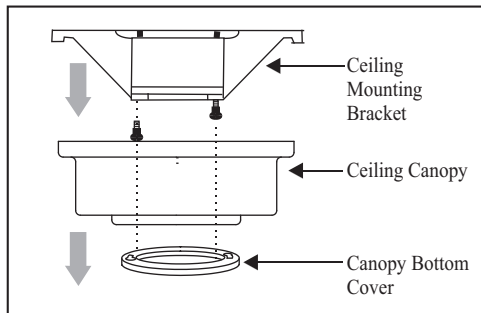

Figure 5
1. Remove the decorative canopy bottom cover from the canopy by turning the cover counter clockwise. (Figure 5)
2. Remove the mounting bracket from the canopy by removing the 1 of 2 screws from the bottom of the mounting bracket and loosening the other one a half turn from the screw head. Next, turn the canopy counter clockwise to removing the canopy cover from the canopy. (Figure 5)